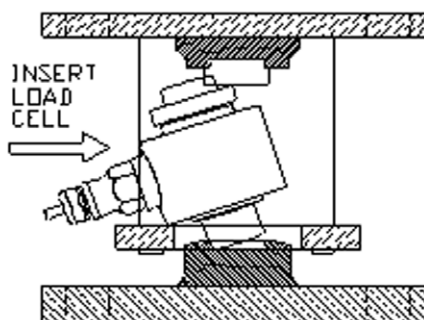

Figure 1-3: Load cell installation (end view)
5. Tilt the load cell (with the cable entry fitting down) and insert its lower button into the lower receiver (see Figure 1-3). Stand the load cell upright so that it is aligned with the upper receiver.